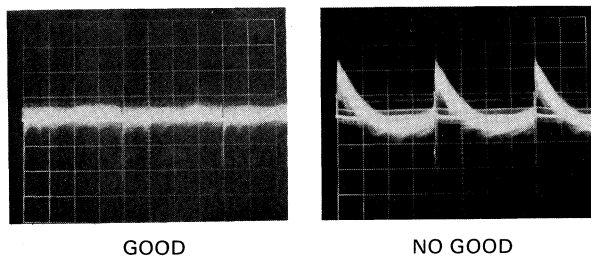

Fig. 4-2-42
(2) R signal vertical shading adjustment
- ADjust R-V PARA VR1 and R-V SAW VR2 to make the waveform as flat as possible. (Fig. 4-2-42)